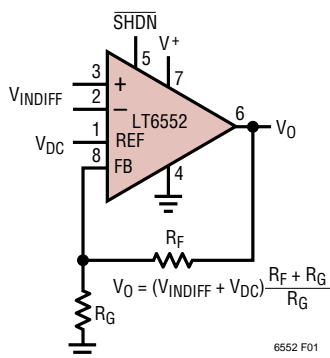

Figure 3
Figure 3 shows the single supply connection. The amplifier gain is set by a feedback network from the output to Pin 8 (FB). A DC signal applied to Pin 1 (REF) establishes the output quiescent voltage and the differential signal is applied to Pins 2 and 3.